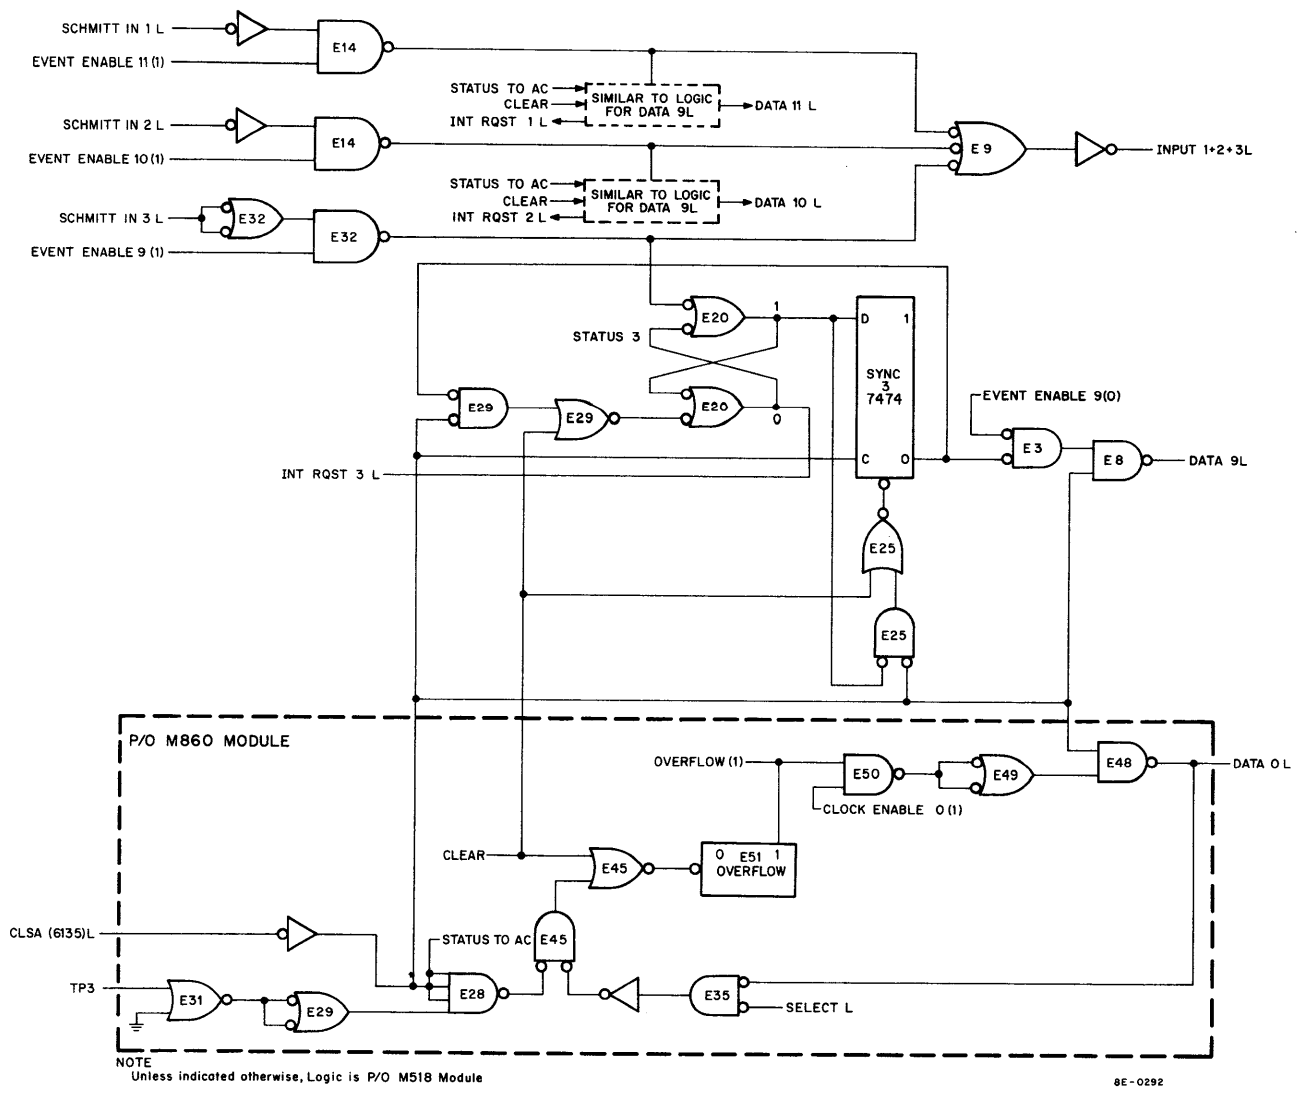

Figure 4-62 Input/Overflow Status Logic
**4.6.2.8 Input/Overflow Status Logic** – The Input/Overflow Status logic, shown in Figure 4-62, enables the programmer to check the status of the OVERFLOW flip-flop and the Schmitt trigger input channels. Input channel 3 is illustrated fully in Figure 4-62; the logic functions are as follows. An external event can cause the SCHMITT IN 3 L signal to be asserted. If the EVENT ENABLE 09 flip-flop has been set by a previous CLOE IOT instruction, the SCHMITT IN 3 L signal sets the STATUS 3 flip-flop and asserts the INPUT 1+2+3 L signal. The latter signal can either actuate the clock or cause the contents of the Clock Counter Register to be transferred to the Clock Buffer Register. When the STATUS 3 flip-flop is set, it asserts the INT RQST 3 L signal. This signal can result in a program Interrupt request, if the CLOCK ENABLE 8 flip-flop has been set by some previous CLOE instruction.
Assume that the external event causes a program Interrupt. The OMNIBUS INT RQST L signal is asserted and the CPU enters the Interrupt-servicing routine. The CLSK instruction in the servicing routine causes the program to proceed to the DK8-EP subroutine. The CLSA IOT instruction determines how often the event occurs in a given amount of time and/or which input channel caused the program Interrupt. When this instruction is issued, the Select logic generates the CLSA L signal that, in turn, generates the STATUS TO AC signal (see Figure 4-62). The leading edge of the STATUS TO AC signal sets the SYNC 3 flip-flop (the D input of the flip-flop is high because the STATUS 3 flip-flop is set). NAND gate E3 and NAND gate E8 are enabled, the latter gate asserting the DATA 09 L signal. The CLSA L signal causes the OMNIBUS C0 L and C1 L signals to be asserted, resulting in a JAM-transfer to the AC Register of the information on the DATA 09 line.